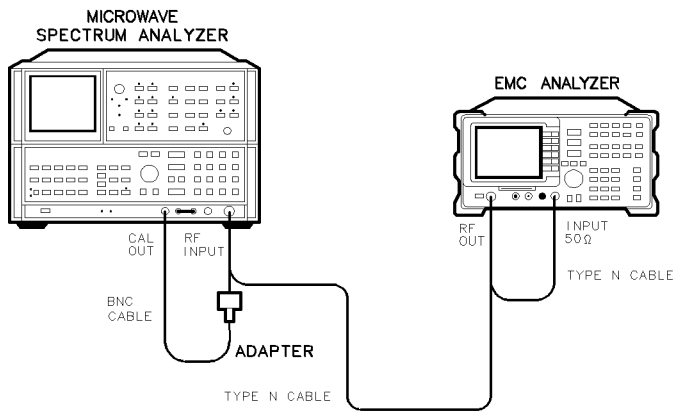

Figure 2-81. Non-Harmonic Spurious Outputs Test Setup, HP 8591EM
1. Connect the Type N cable between the RF OUT 50 Ω and INPUT 50 Ω connectors on the EMC analyzer. See Figure 2-81.
6. Connect the Type N cable from the tracking generator output to the microwave spectrum analyzer RF INPUT as shown in Figure 2-81.